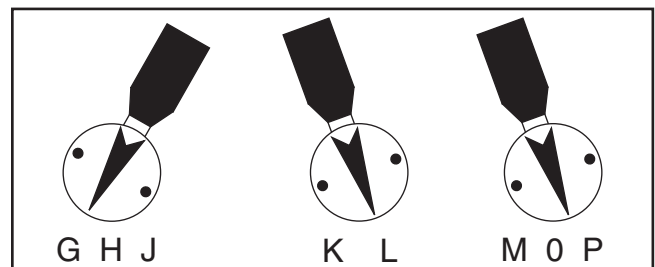

Figure 53. Spindle speed levers set for a speed of 1280 RPM.
- Configure the spindle speed levers as directed in the spindle speed chart. For instance, the calculated spindle speed in **Example A** is 1200 RPM, then the spindle speed levers are configured for the nearest speed of 1280 RPM, as shown in **Figure 53**